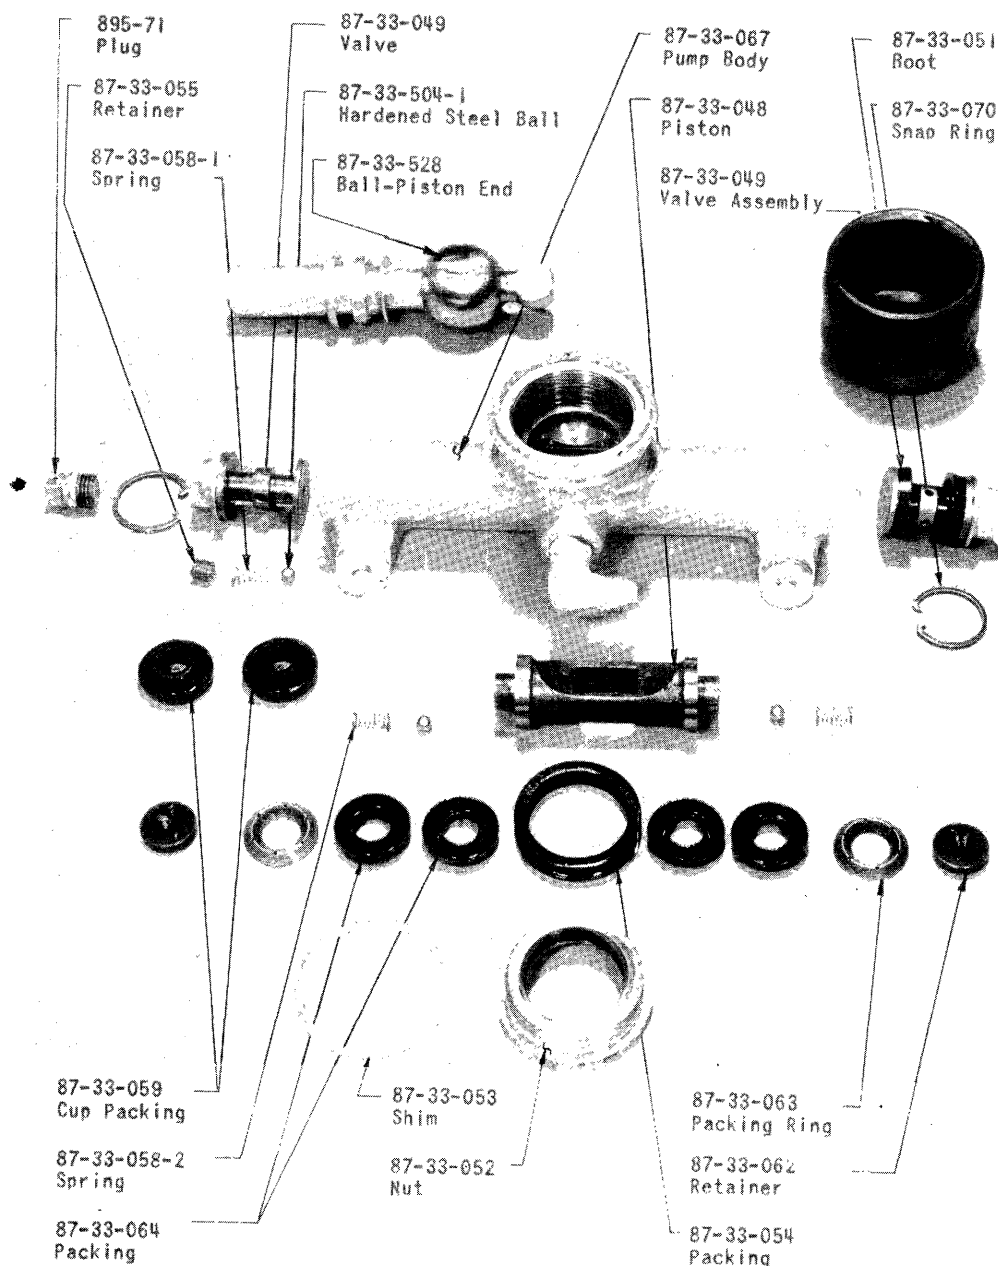

Figure 124 - Hydraulic Hand Pump Disassembled
(6) Pull the snap rings with a snap-ring wrench and remove the valve assemblies at both ends of the pump cylinder. (See figure 124.)
(7) A screw driver may be inserted through either end to push the piston assembly from the pump cylinder. Insert the screw driver into the slot on the retainer when applying force to remove the piston so that the face of the retainer will not be disfigured.
(8) The pump is now completely disassembled and the piston and valves may be disassembled to check the ball and ball seats as well as the springs.
(9) To disassemble the piston proceed as follows: